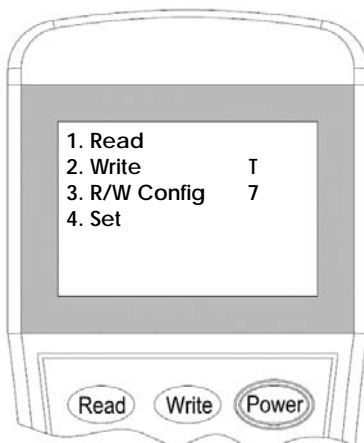

Figure 13
3. Switch-on the programmer, then press button **"3"** to enter to Configuration mode (Figure 13).